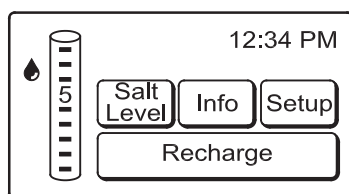
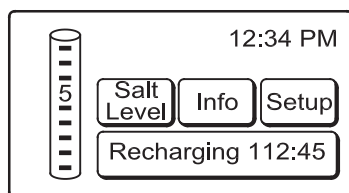
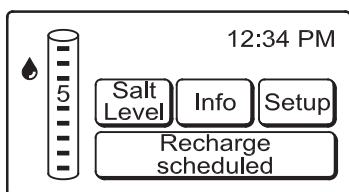

FIG. 29
FIG. 32
FIG. 41
The long button at the bottom of the softener status screen (See Figure 29) will show recharge status, including whether a recharge is scheduled (See Figure 41). During a recharge cycle, a countdown clock is displayed in the button (See Figure 32).
1. Press the RECHARGE button at the bottom of the softener status screen (See Figure 29).